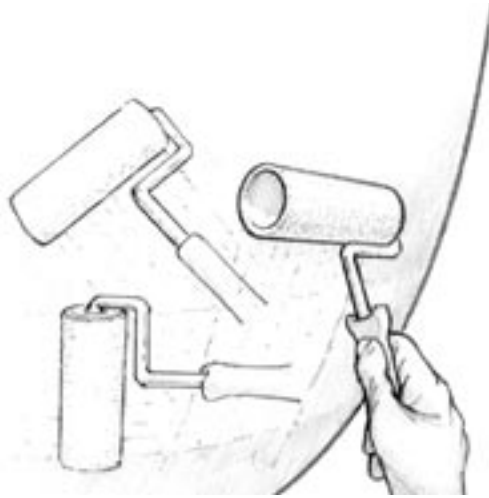

Figure 3-19 Apply the epoxy in thin even coats with a thin foam roller.
4. Roll lightly and randomly over an area approximately 60 cm x 60 cm to transfer the epoxy evenly over the area (*Figure 3-19*).